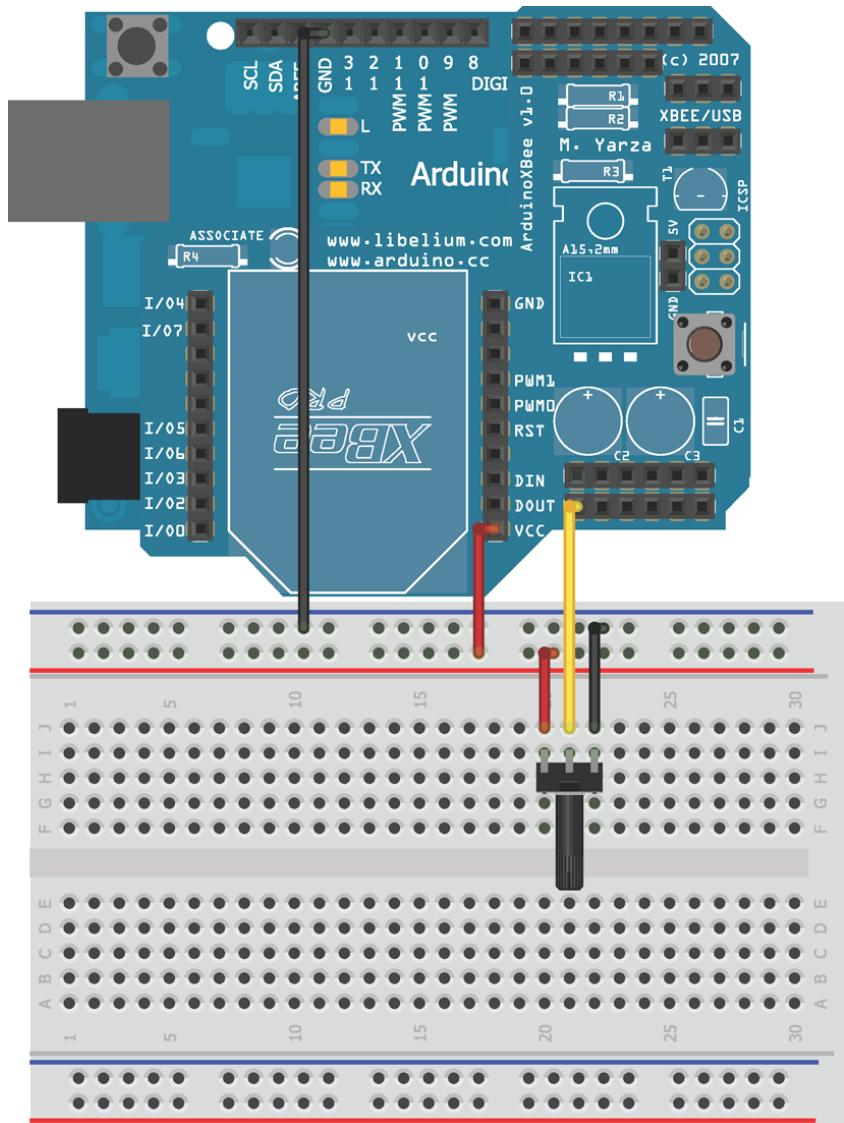

Figure 11-16: Wiring diagram showing Arduino with XBee shield and potentiometer
2. Unplug the Arduino from your computer and install the XBee shield along with the XBee. Connect a potentiometer to analog input 0 as shown in the wiring diagram in Figure 11-16.